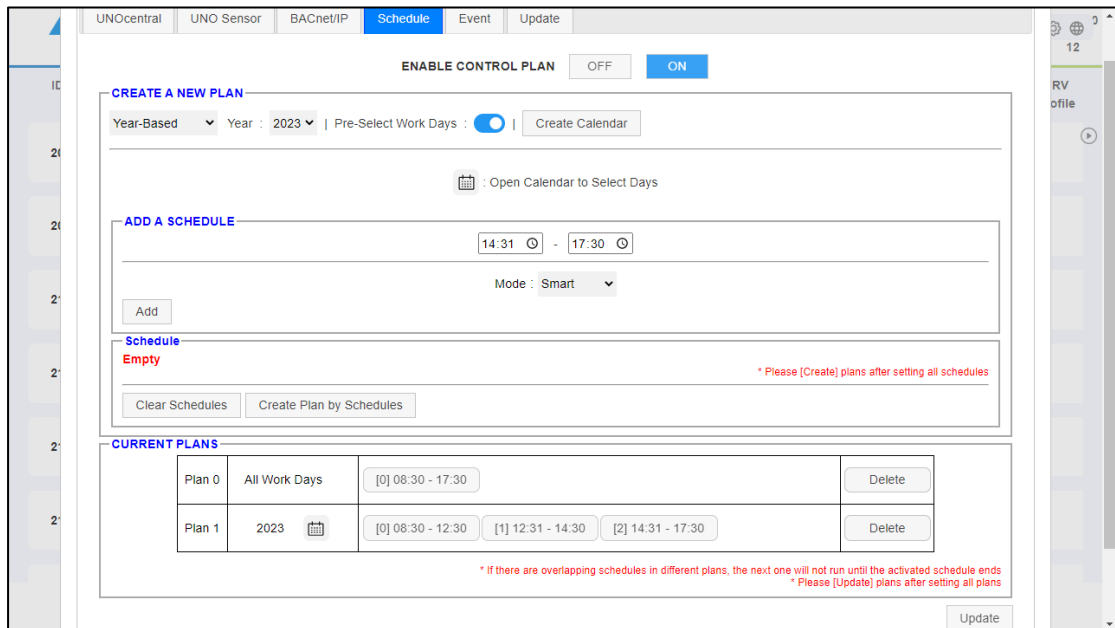

Figure 22 Project added
- As shown in Figure 22, after successfully creating a new plan, you will see the newly created plan in the [Current plans] block below. The calendar icon and buttons can be clicked to view the details of the control plan and schedule, and you can also delete a specific control plan. When all the control plans are set, click [Update] to write to settings.